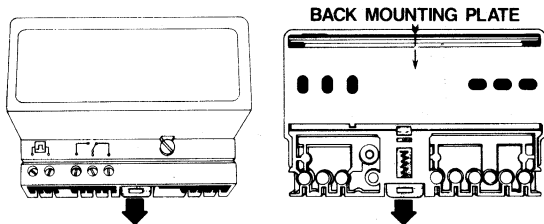

Figure 2. Spring Loaded Catch
1. Remove back mounting plate by releasing spring loaded catch. See Figure 2.